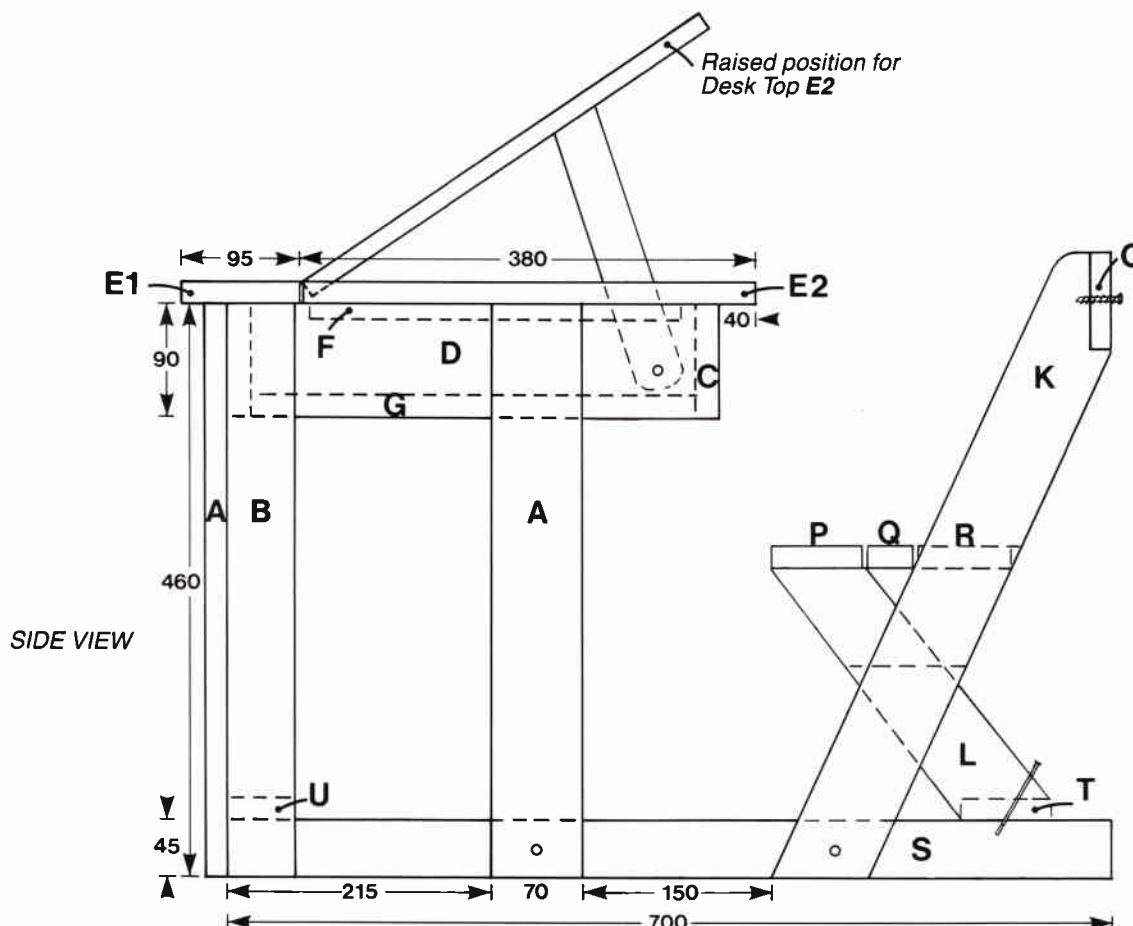
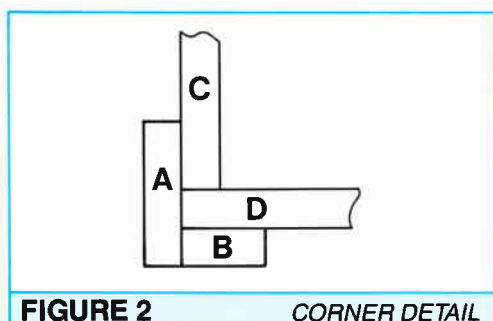

FIGURE 1
FIGURE 2 CORNER DETAIL
1. A study of **Figure 1** shows that the desk is made up of two separate items - the table and the seat - joined together by the base strips **S** to form one unit. The table is made first, then the seat, and the two are then combined.
2 Assemble the two front legs which consist of **A** and **B** joined by gluing and nailing. (**Figure 1 & Figure 2** show how the edge of **B** butts up to **A**).
3 Take the frame components **C** and **D** and lay them out on edge to form a box with the end section of **C** butting up to the end of **D** as shown in **Figure 2**. Add glue to the ends of **C** and nail through **D** at each corner into the respective ends of **C**, using two 40 x 2.0mm nails (pre-drilling is advisable). Check for square on all four corners as you fasten.